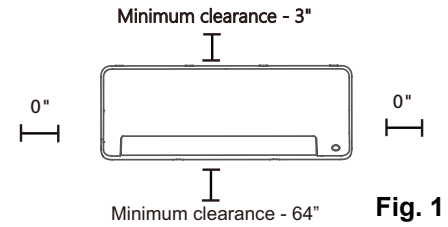
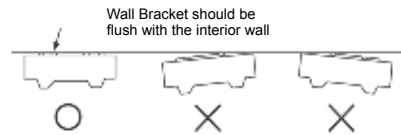
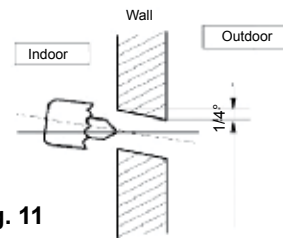
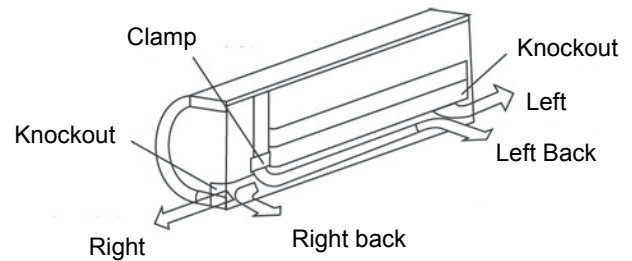

Fig. 1
Fig. 9
Fig. 11
Fig. 14
- Unit must be installed in a location that does not obstruct the flow of air and ensures clearances are maintained. (Fig. 1)
- The indoor unit should be mounted high up on the wall toward the ceiling, leaving a minimum of 6" (150mm) of space between the ceiling and the top of the indoor unit. (Fig. 1)
- Mount the wall bracket flush on structural parts (studs) of the wall with proper unit clearances in consideration. (Fig. 1 and Fig. 9)
- Determine hole position according to the wall bracket that comes with your unit, the unit's required clearances (Fig. 1) and which direction (left/right) the lines will be routed from the back of your unit (Fig. 14). Drill 2.5" (65mm) hole angled downward (approx. 1/4") toward the outdoors. (Fig. 11).
- A. Remove the knockout from the desired side of the unit that the line set will be routed from. The lines from the unit can be routed either left or right, left back or right back (Fig. 14).
- B. Remove the clamp (Fig. 14) before attempting to bend the line set to prevent kinks. The clamp may be replaced and used to hold the line set in place, but this depends on the routing direction of the line set and whether it is needed, taking into account the line's bend radius.